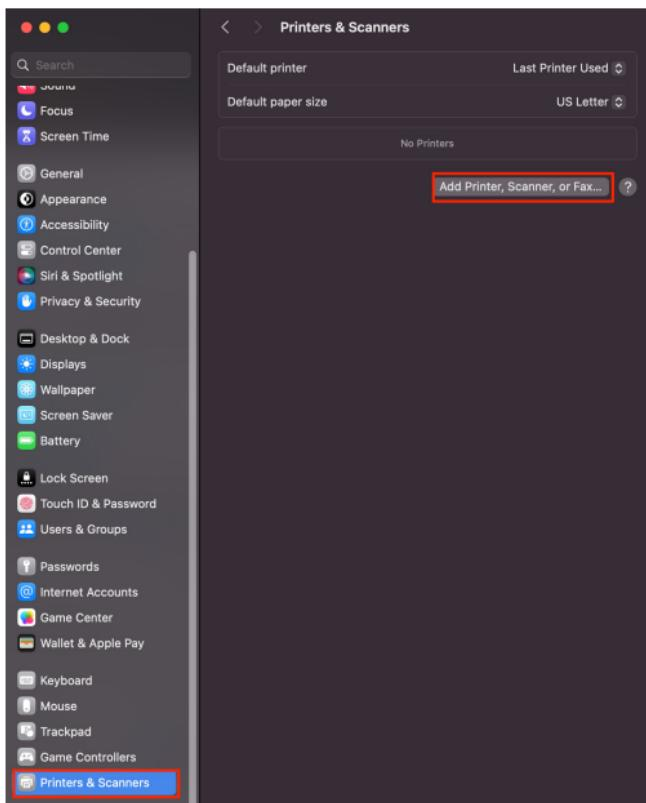

Figure 34
2. Navigate to **Settings** and select **Printers & Scanners** on the **left (Usually near the bottom)** and click **Add Printer, Scanner, or Fax....** (Figure 34)